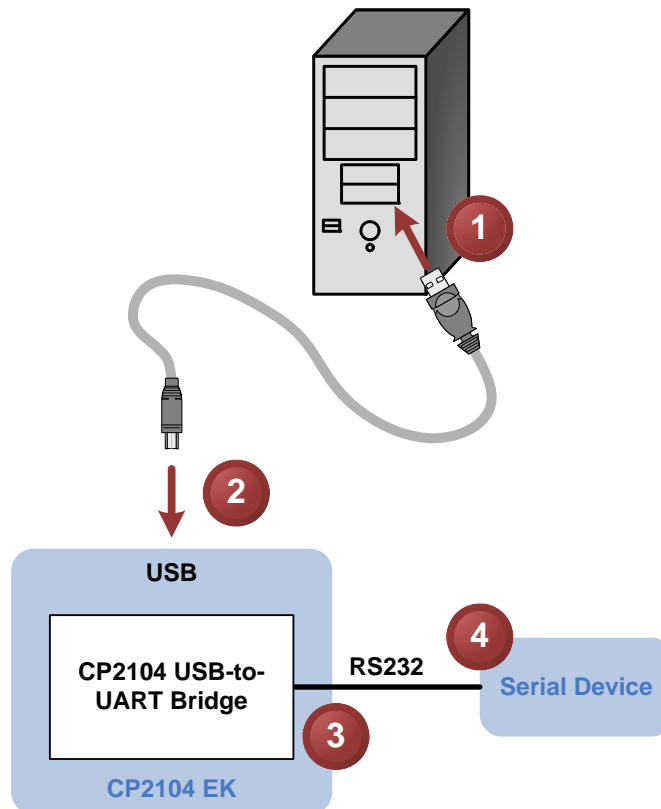
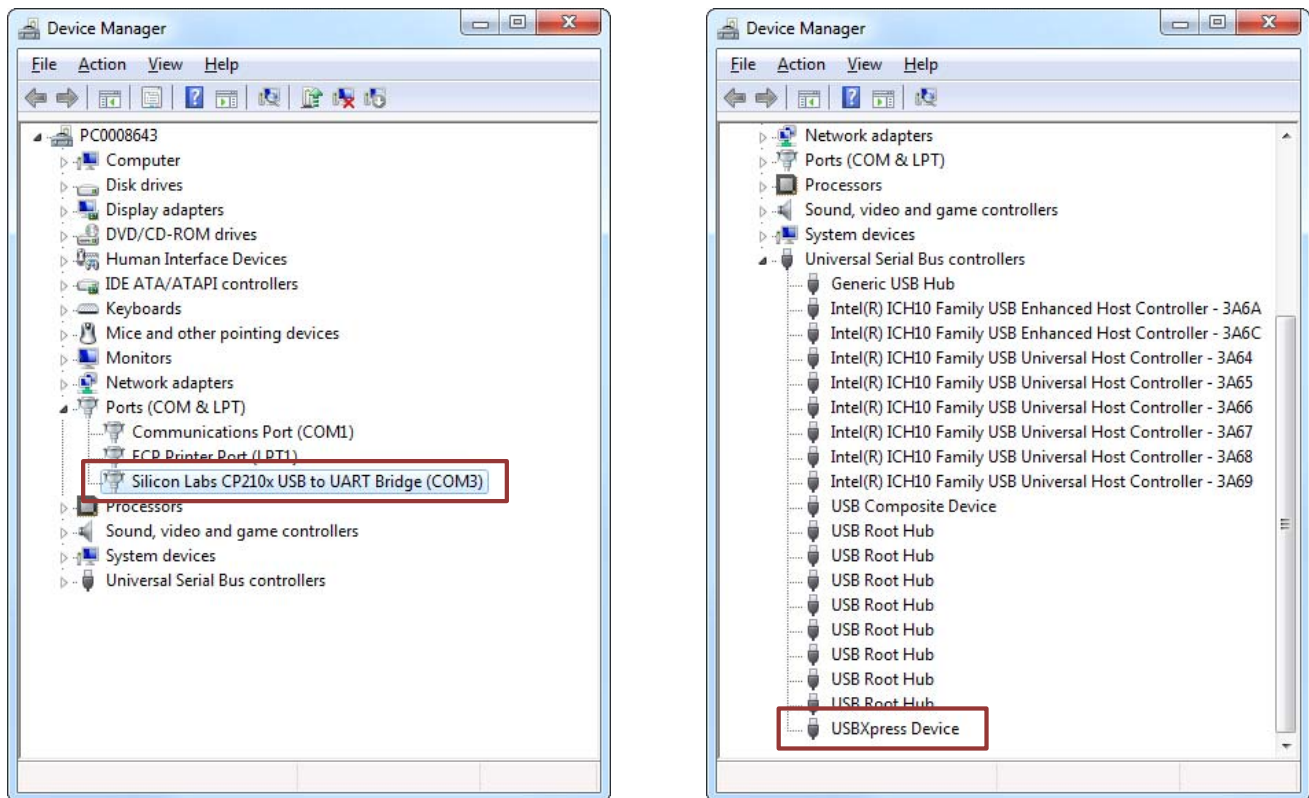

Figure 1. Hardware Setup
Figure 2. CP2104 in Device Manager
The evaluation board is connected to a PC as shown in Figure 1.
If the Virtual COM Port drivers are used, the CP2104 will appear as a COM port in the Device Manager, as shown in Figure 2. The CP2104 will always use the lowest available COM port for operation. For instance, if COM ports 1 and 2 are in use by other peripherals and applications, the CP2104 will use COM 3.
If the USBXpress drivers are used, the CP2104 will appear as a USB USBXpress device as shown in Figure 2. Examples for how to communicate with the device using the USBXpress interface are included in AN169 on the [www.silabs.com/interface-appnotes](http://www.silabs.com/interface-appnotes) page.
- Updated Figure 1 and Figure 2.